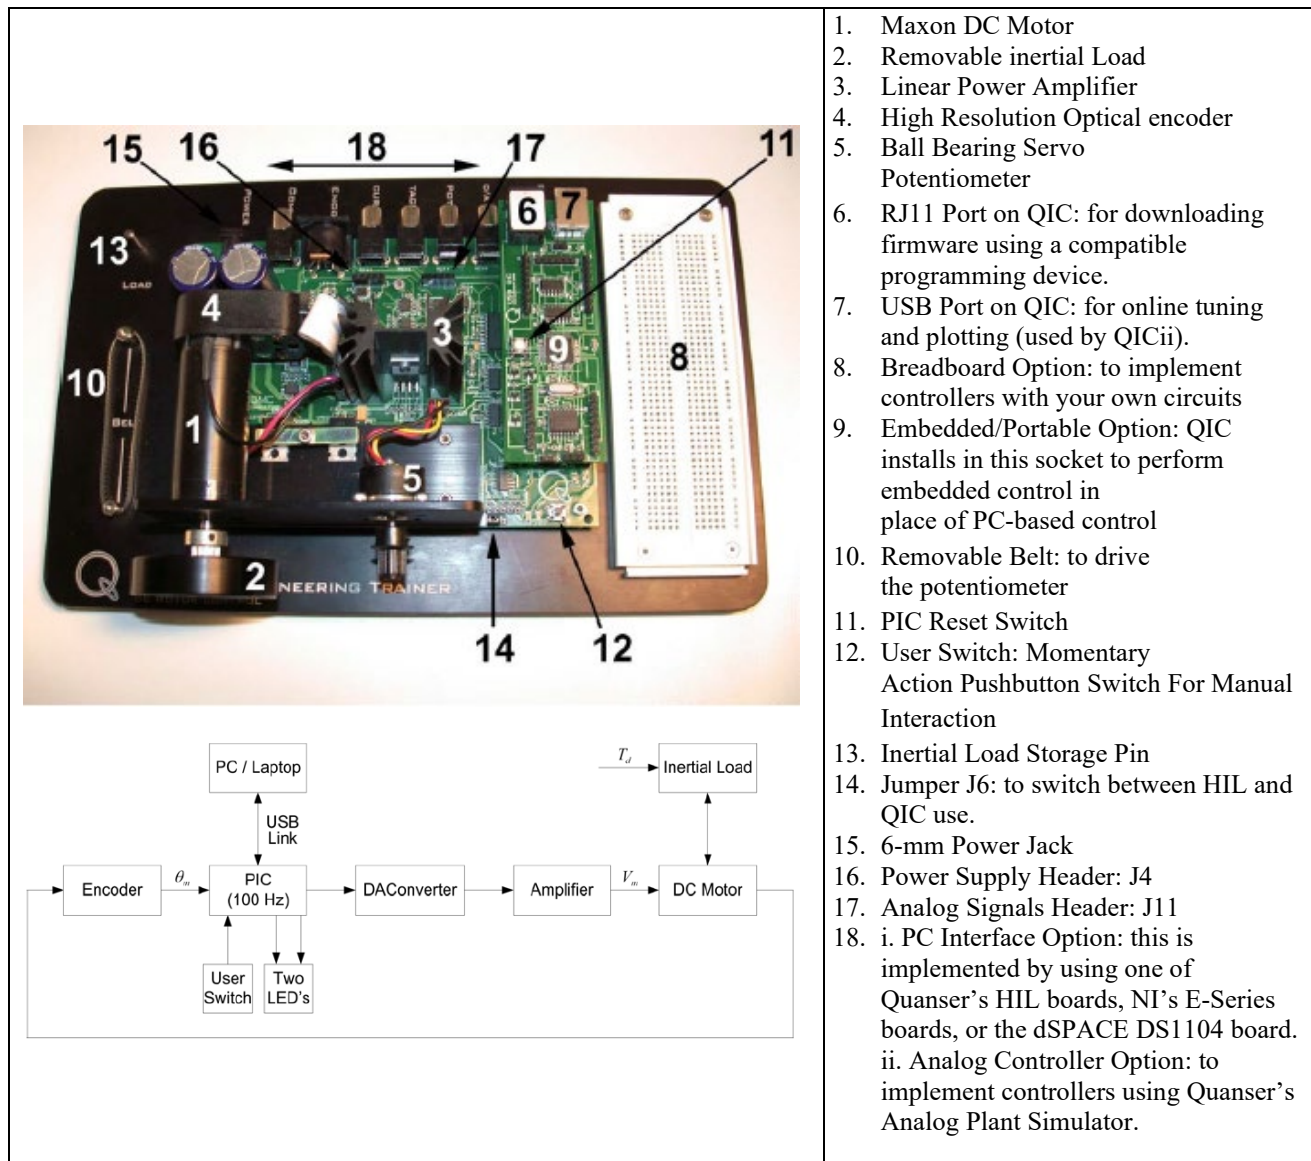

Figure 1: DCMCT General Layout, Component Nomenclature and simplified block diagram for this lab
This lab utilizes a DC Motor Control Trainer rig (DCMCT) manufactured by the company Quanser. Mounted on the DCMCT rig is a Maxon 18-Watt permanent magnet DC servomotor. This trainer rig allows the user/student to operate /control the Maxon servomotor via Personal Computer (PC) or external analog electronics. For this lab, we will use the QIC Processor Core under PC control to provide the excitation signals and measure and display motor variables. The DCMCT shown in Figure 1 consists of:
6. Press the User Switch (refer to Figure 1).
Note: If successful, the removable inertial load should start to spin, and traces similar to those in Figure 1, should begin drawing in the display of the QICii software.